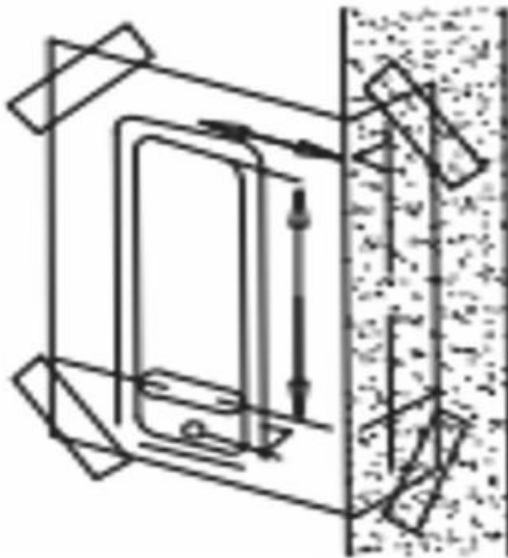

FIG3
- 1) Correctly position and affix the template (Model 209 product template) to the surface of the internal door. Required height off the floor. Ensure that the relevant, marked, door edge alignment template should be properly aligned with the actual door edge (as Fig 3).